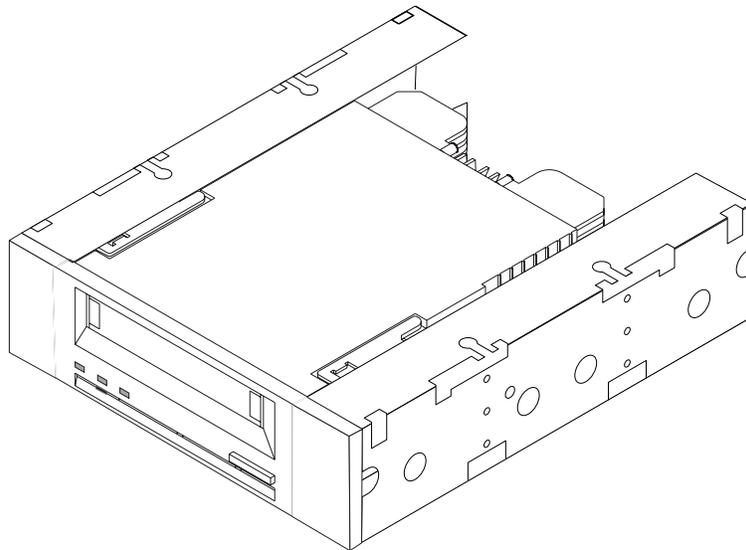

Figure 2. Internal Scorpion 40 Drive with drive rails for mounting in 5.25-inch drive bay
- A 5.25-inch, half-height DDS-4 drive that consists of a 3.5-inch drive with 5.25-inch mounting rails and bezel that mounts internally in a 5.25-inch, half-height space—model STD2401LW (see Figure 2).